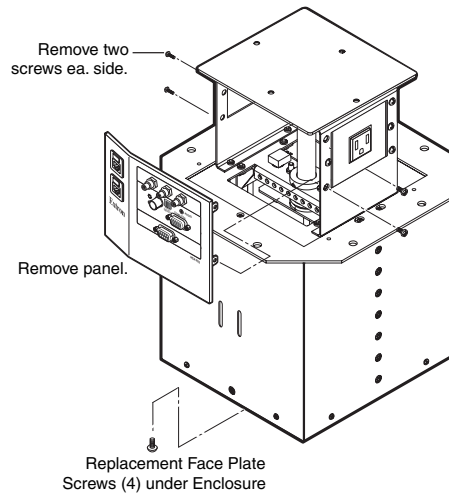

Figure B-3 — Removing the AAP/RJ-45 panel
- c. For both AAP/RJ-45 panels, remove the top and bottom screws on the right and left sides of the panel (figure B-3). Lift the panels away from the enclosure as far as the connected cables allow and then allow the panels to dangle, supported by their connected cables.